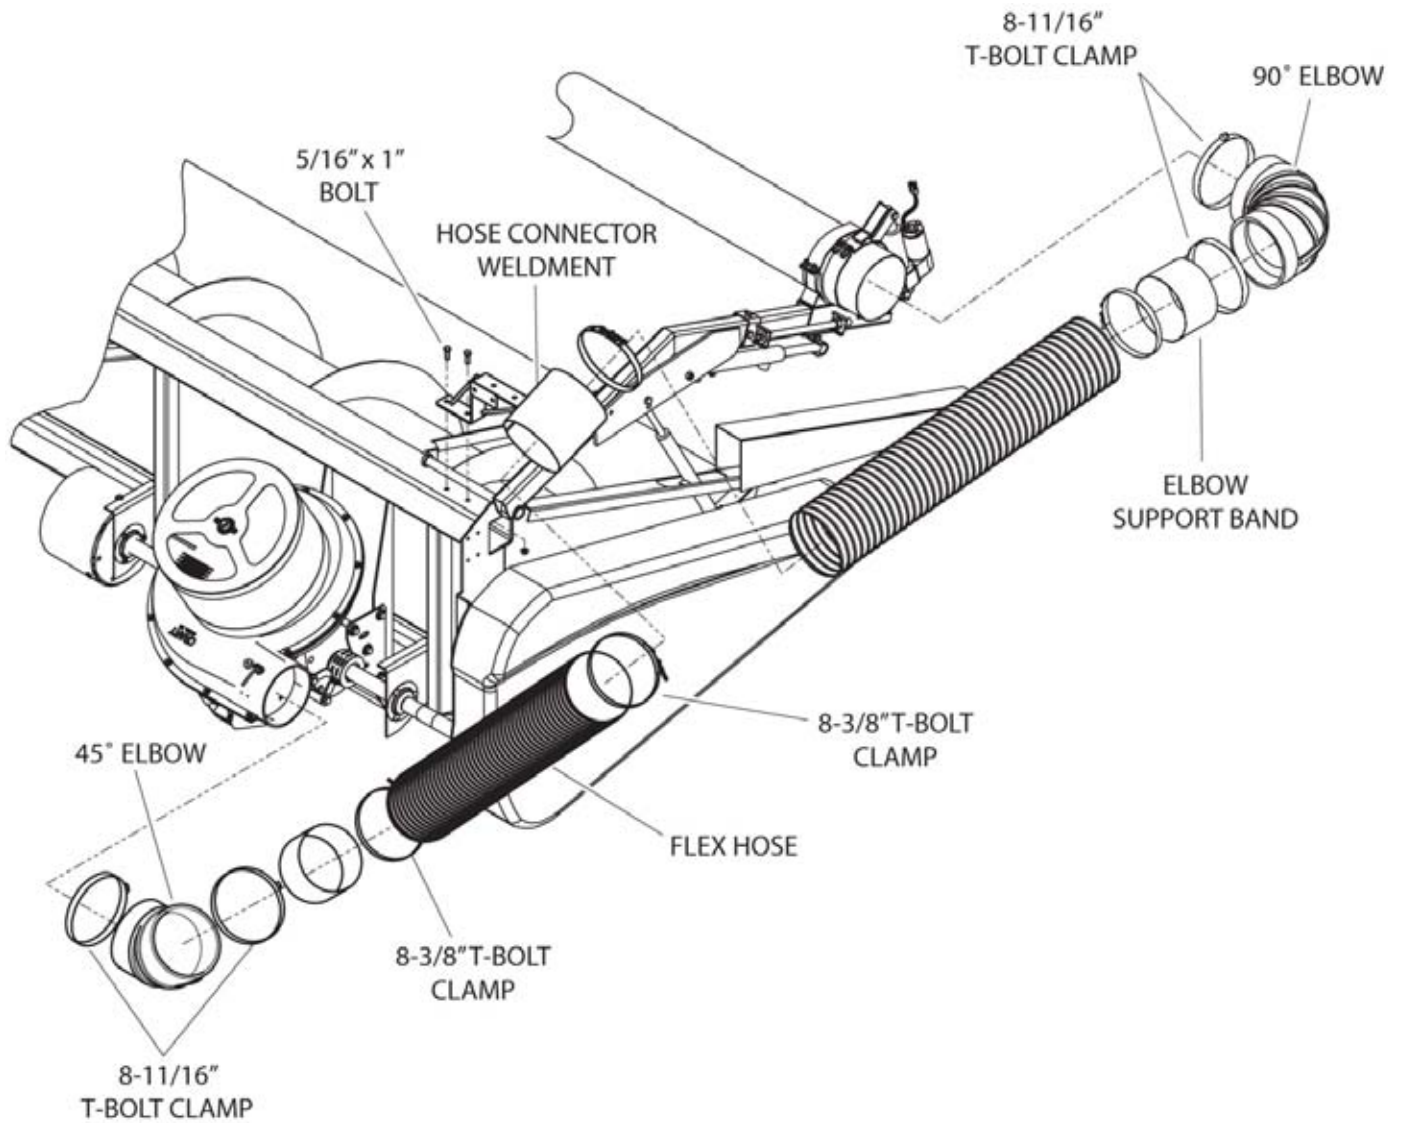

Figure 33, Hose assembly
5. Place an 8-11/16" t-bolt clamp over each end of the 45 degree elbow (Figure 33).